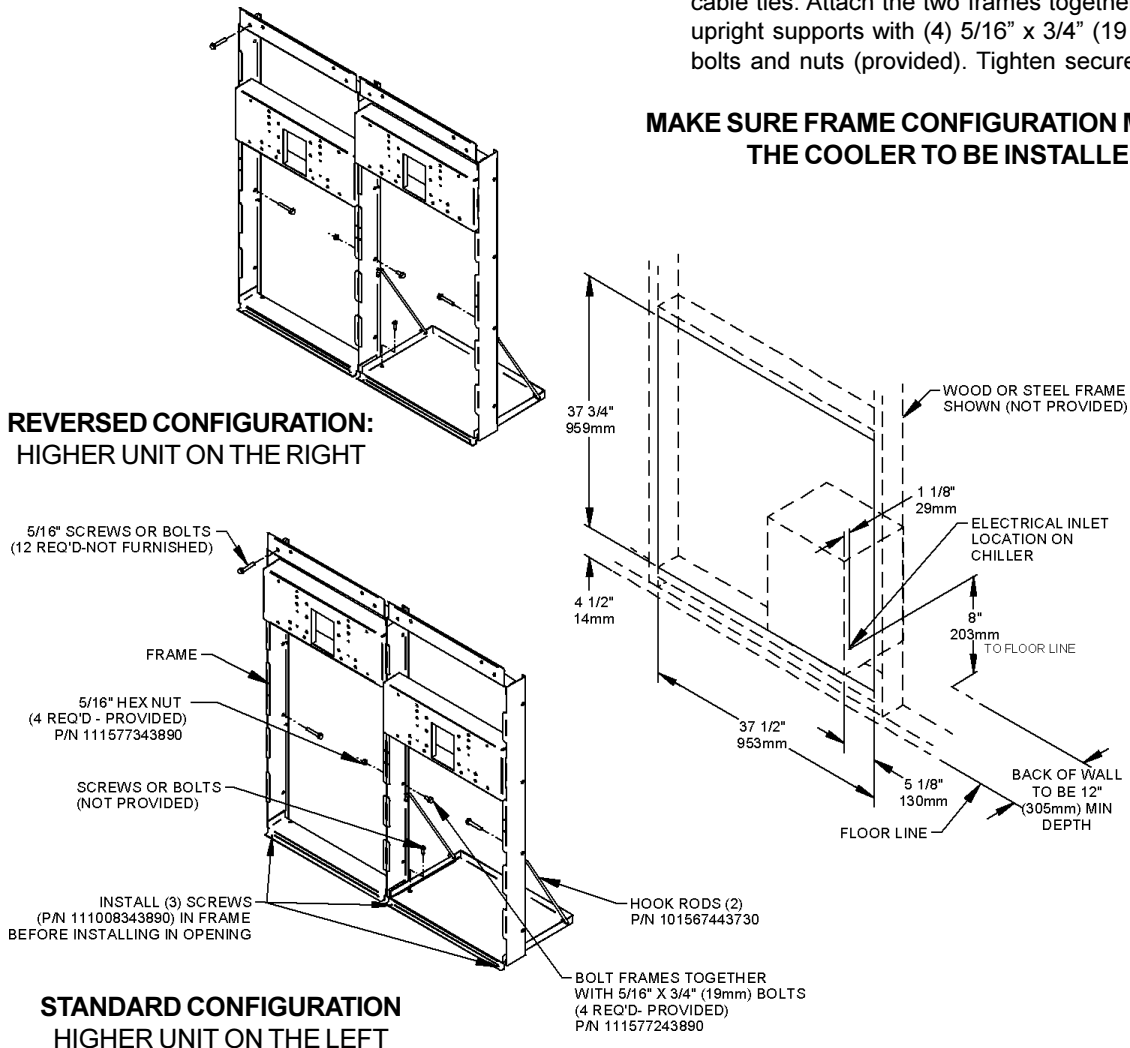

Figure 6 – Rough-In Assembly Dual-Station Mounting Frames
1. **Cut a rectangular wall opening** 37-1/2" (953 mm) W x 37-3/4" (959 mm) H and 4-1/2" (114 mm) above the floor line (see Figure 6). The dimensions are required to obtain proper rim and bubbler heights for compliance with ANSI standard A117.1.
3. **Install plumbing and electrical rough-ins.** A junction box for a (3) wire, 10 amp branch circuit is provided on the inside of the chiller. (Standard 120 Volts, 60 Hz, and single phase.)
4. **Remove frames and related hardware** from packaging. Release the two shelf rods by cutting cable ties. Attach the two frames together through the upright supports with (4) 5/16" x 3/4" (19 mm) long bolts and nuts (provided). Tighten securely.